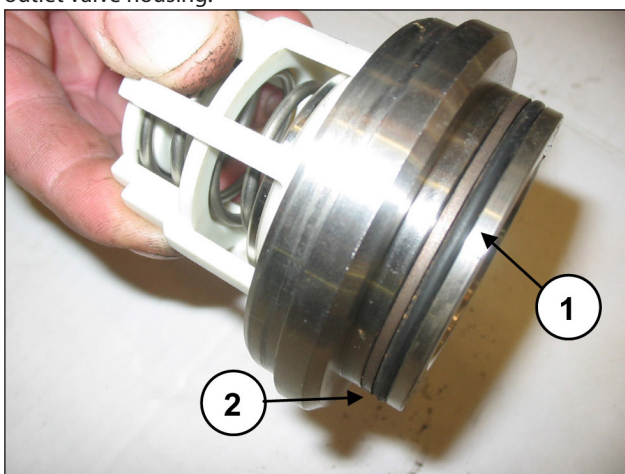

Fig. 123
Fit the O- ring, exploded view pos. 6 (pos. ①, Fig. 123) and back-up ring, exploded view pos. 14 (pos. ②, Fig. 123) on the outlet valve housing.